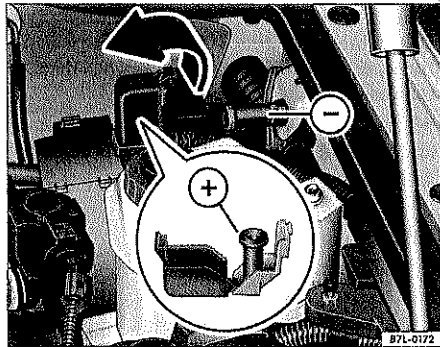

Fig. 51 Engine compartment detail: positive (+) and negative (-) terminals for jumper cables.
- Open the red cap on the positive terminal in the engine compartment (⇒ fig. 51 ⊕) in the direction of the arrow.